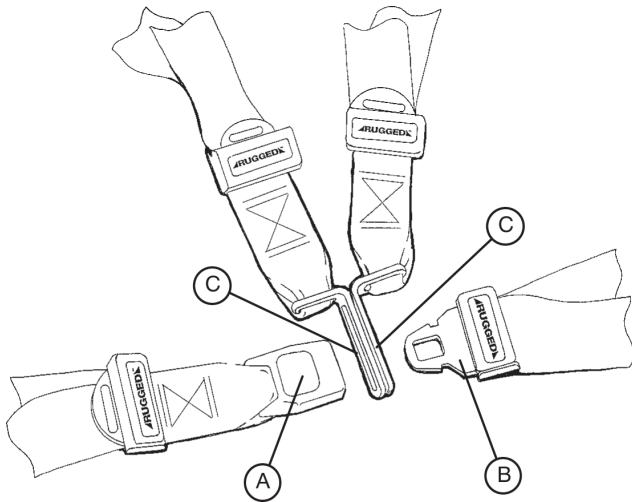

Figure 19 - Buckling the Safety Restraints
1. Press the red button (A) on the front of the buckle “receiver”.
2. This releases the buckle latch plate (B) which can then be pulled out of the receiver (Figure 19).
2. When fastening the chest restraint ensure the latch plate passes through both links (C) on the shoulder strap (Figure 19).